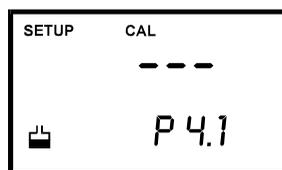

Figure 22: Meter is not calibrated
**NOTE:** *If you did not calibrate this meter in a particular mode, the screen will show “---”. See Figure 22.*